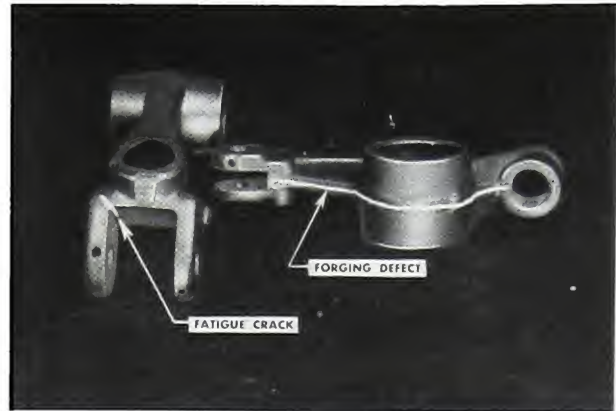

Fig. 4-4. Magnetic inspection of rocker levers
6. No. 41698-1 shaft is a smooth shaft. It should replace the old style grooved shaft. When this change is made, the position of the lock screw must be changed to the under side of the housing as shown in Fig. 4-4.
tween centers) and circumferentially (in a coil) at approximately 1200 amperes current. Any crack appears as a bright yellow line. See Fig. 4-4.